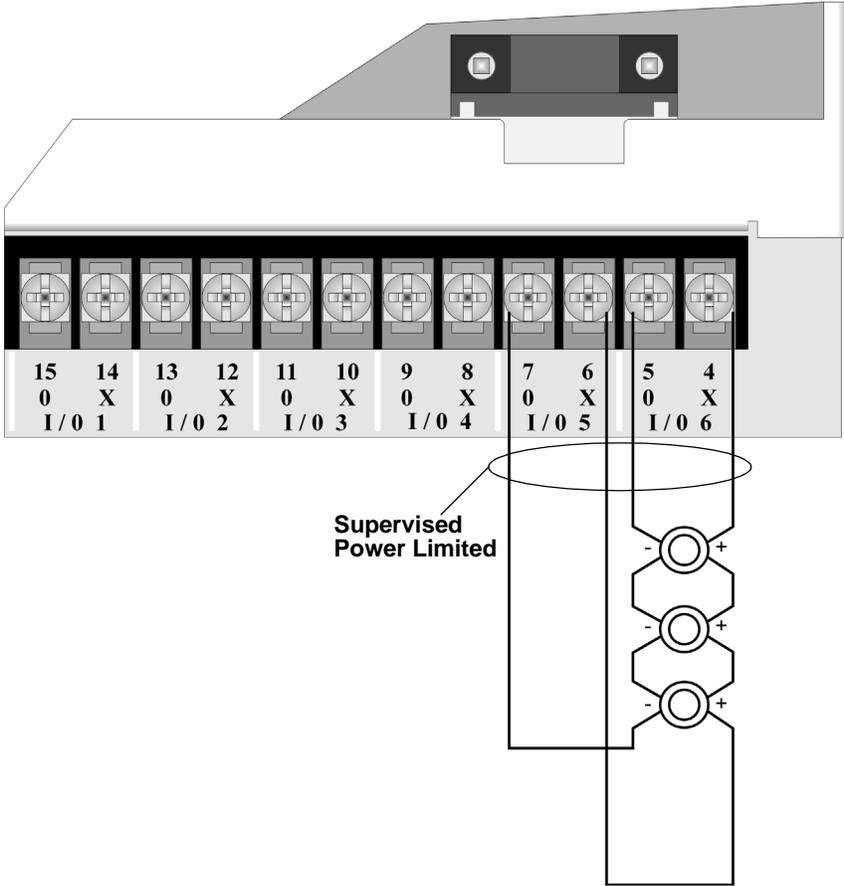

Figure 4-38 Class A Notification Appliance Circuit Configuration
1. Wire the Class A notification appliances as shown in Figure 4-38.
Note: In programming any point that uses multiple Flexput circuits, the lowest Flexput circuit number is used to refer to the circuit pair. For example, Figure 4-38 uses both Flexput circuit 5 and 6, so in programming it would be referred to as point 5.